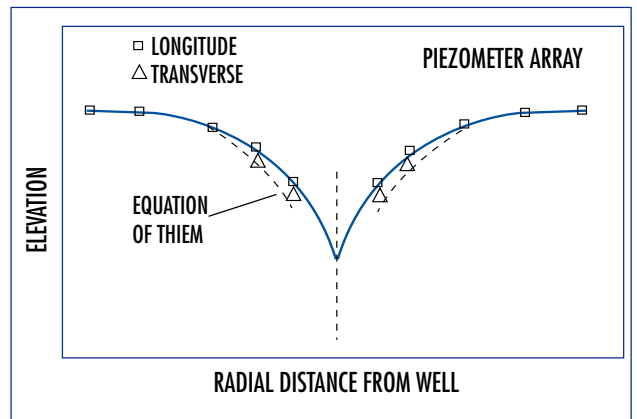

Fig. 2: Cone of depression for a single well in an unconfined aquifer
- *Cone of depression for a single well in an unconfined aquifer. (Fig. 2)*
Water flowing into a well creates a depression in the water table. The contour of the water table is plotted using the levels in the Piezometer tubes. Results obtained can be compared with Dupuit's or Thiem's formulae (fig.2).